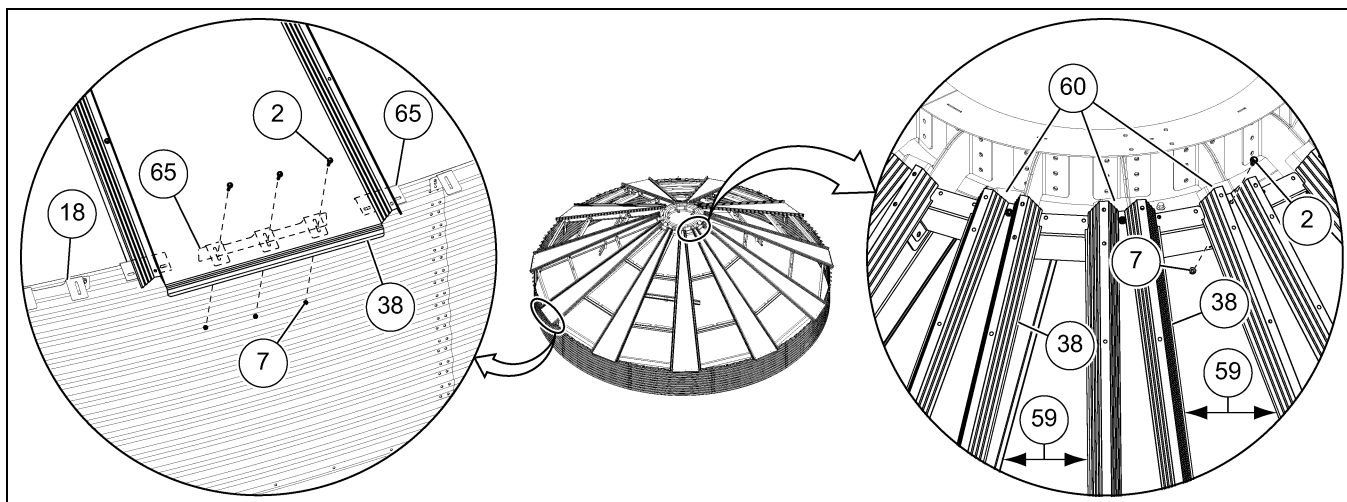

Figure 4U Installing the Roof Panels
4. When the initial roof panels (38) are installed, fill in the exposed gaps (59). Working in a **counterclockwise direction**, install two additional roof panels (as shown in Figure 4U), overlapping each roof panel on the left. Adjust the roof panels as needed.